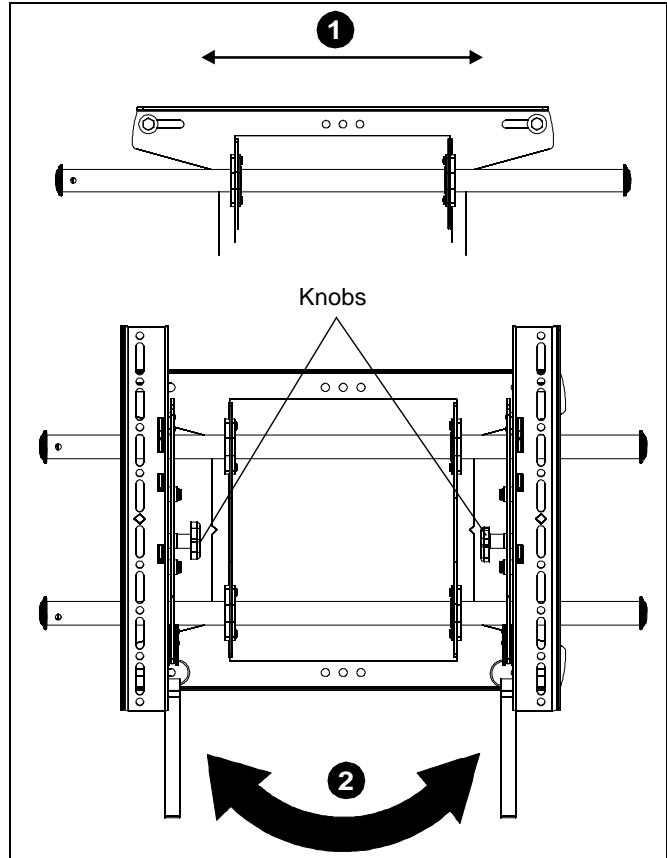

Figure 6
1. The wall bracket may be adjusted side to side at the points of attachment. (See Figure 6)
2. The location of the left and right interface brackets may be switched, with the knobs on the MTA interface brackets facing the inside of the mount. (See Figure 6)